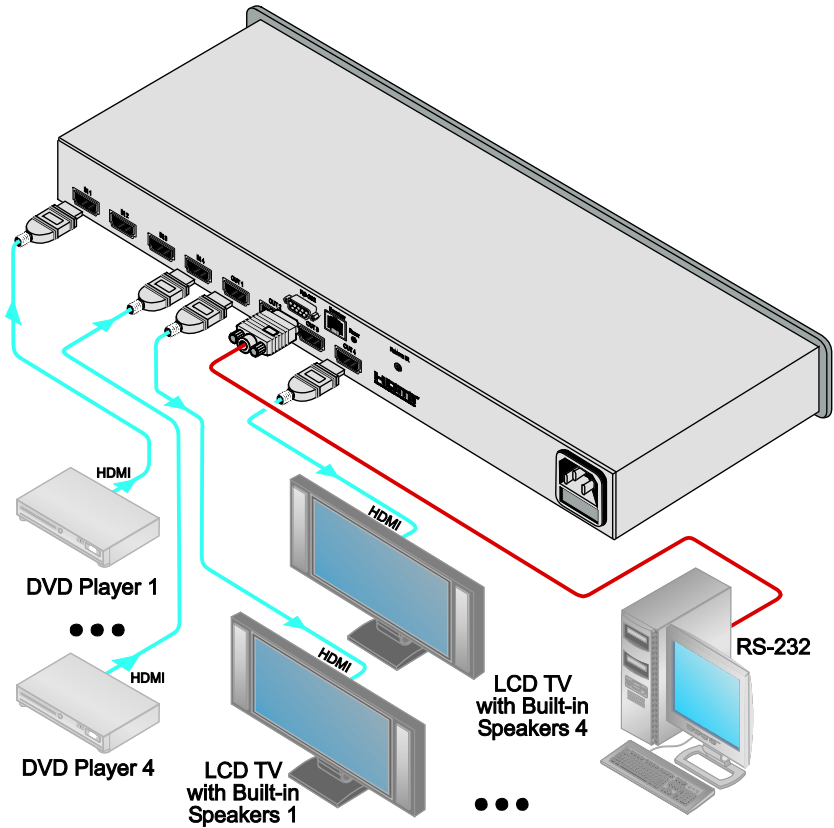

Figure 2: Connecting the VS-44H 4 x 4 HDMI Matrix Switcher
To connect the **VS-44H**, as the example in Figure 2 illustrates, do the following¹:
4. Connect the power cord (not shown in Figure 2).